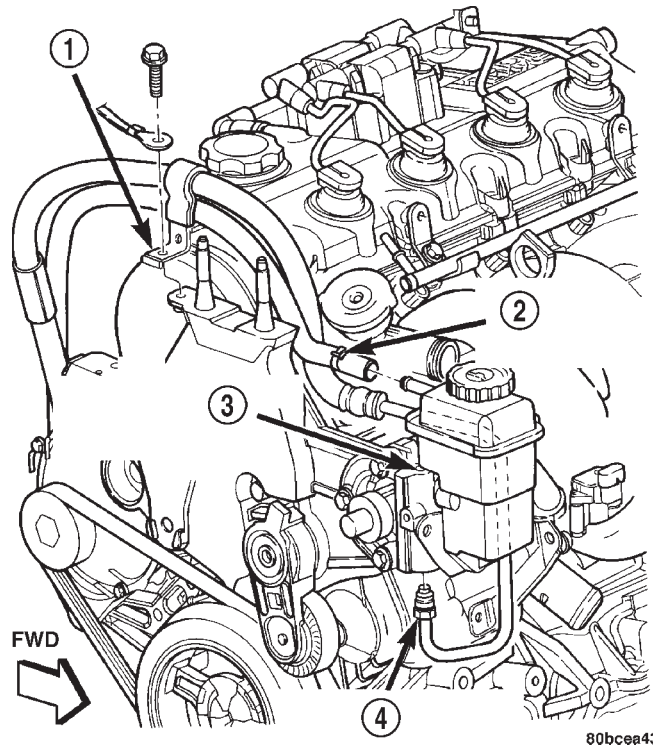

Fig. 5 Hose At Pump
(3) Unscrew the tube nut and disconnect the power steering fluid pressure hose from the power steering pump (Fig. 5).
(4) Connect Adapter Fitting, Special Tool 6844, attached to pressure hose from inlet (gauge end) of Power Steering Analyzer to the pressure fitting on the power steering pump. Tighten the tube nut to a torque of 34 N·m (25 ft. lbs.).
(5) Connect the vehicle's power steering fluid pressure hose to Adapter Fitting, Special Tool 6826, which should be already installed in the outlet hose (valve end) of Power Steering Analyzer. Tighten the tube nut to a torque of 34 N·m (25 ft. lbs.).